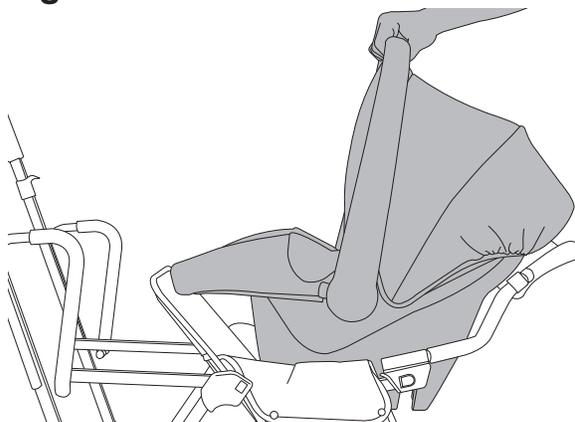

Figure 24
- Place the infant carrier onto the top of the stroller in a REAR FACING POSITION, locating the head end of the carrier so that it rests on the Car Seat Carrier Support and the feet end of the carrier so that it rests on the seatback, but NOT on the top edge of the seatback. See Figure 24.